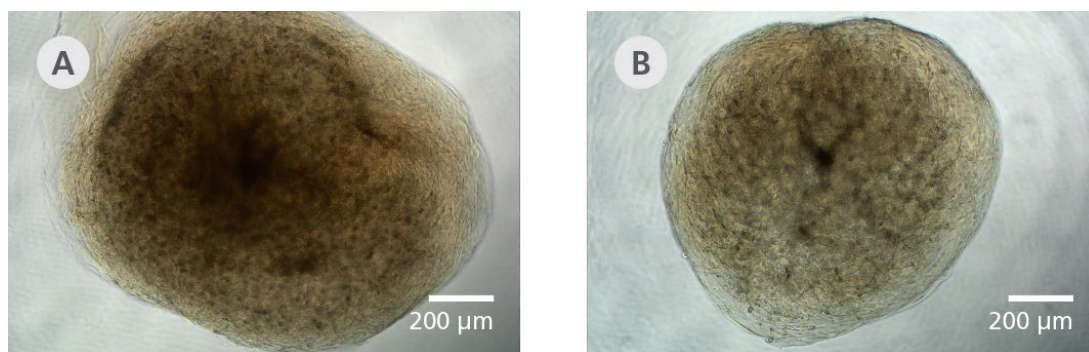

Figure 5. Mature, Spherical Blood Vessel Organoids on Day 15 in STEMdiff™ Blood Vessel Organoid Maturation Medium and a 96-Well Plate
7. Observe organoids under a microscope. Organoids should be completely spherical and blood vessels should be visible (see Figure 5). Organoids will be ~500 μ m to 2 mm in length.